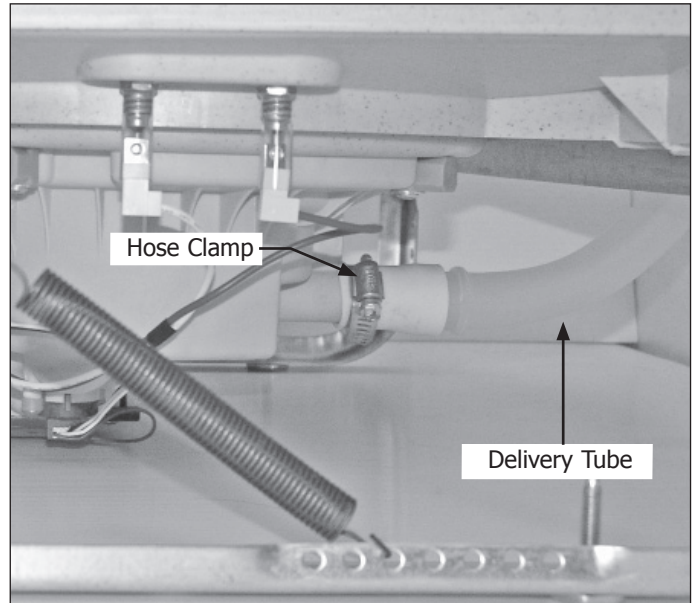

Figure 4-33.
7. Using a flat bladed screwdriver, remove the hose clamp securing the delivery tube to the outlet of the sump. Pull delivery tube off sump outlet and remove from unit. (See Figure 4-33)